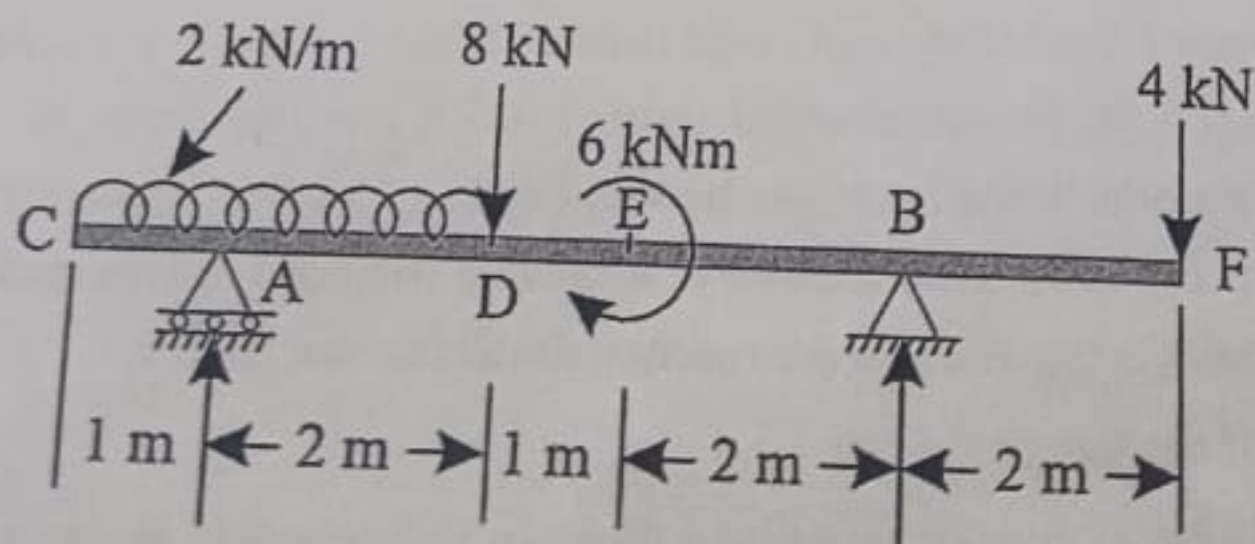

Figure 3
5. Sketch the shear force and bending moment diagrams showing salient values for the beam loaded as shown in the Figure. 3. Indicate the point of contraflexure.